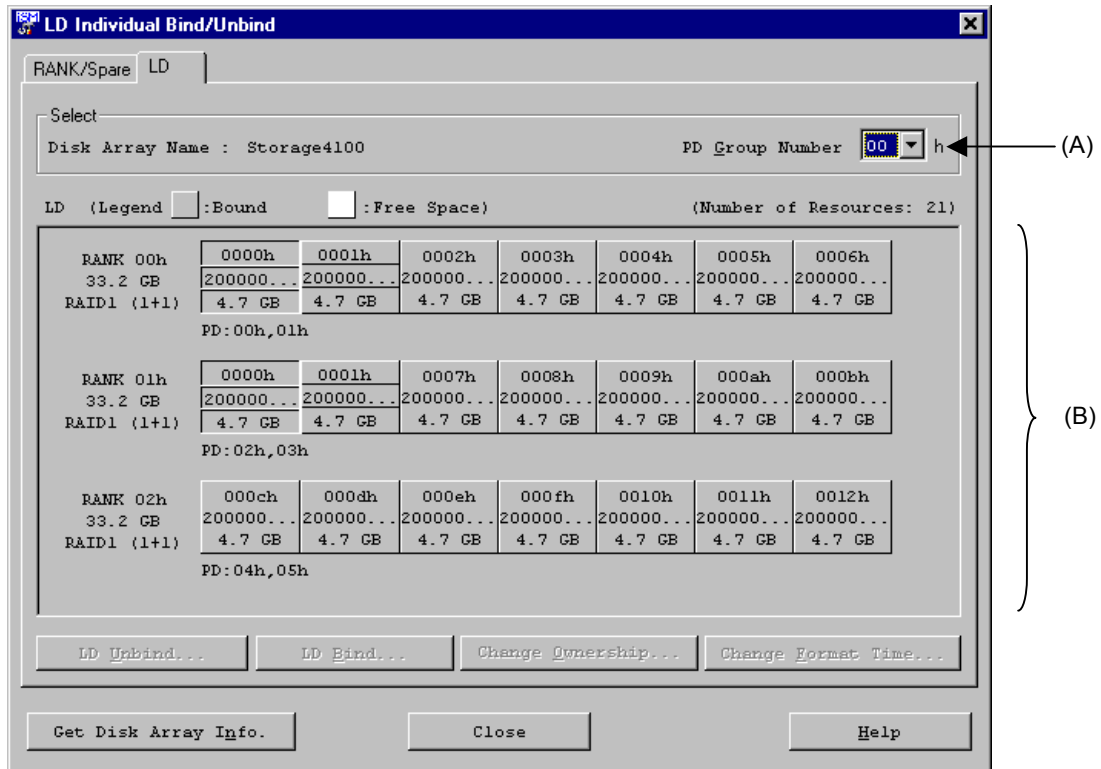

Figure 8-45 LD Screen
(1) Description
The LD screen is shown in Figure 8-45. The encircled alphabets in the screen are described below. To know how to manipulate the screen, refer to (2) "Operation".